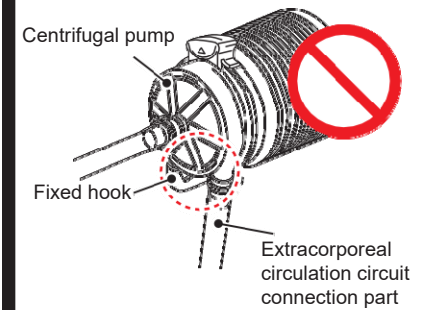

Figure 1-33
- Attach the centrifugal pump so as not to let the fixed hook and the extracorporeal circulation circuit connection part interfere. The fixed hook or centrifugal pump may be damaged. (Figure 1-33)